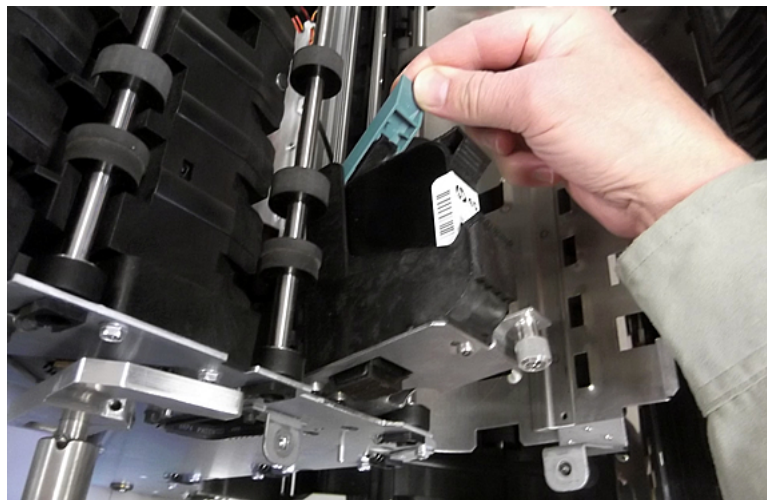

Figure 5-7: Cartridge release lever
6. Push the cartridge release lever out of the way (see Figure 5-7).